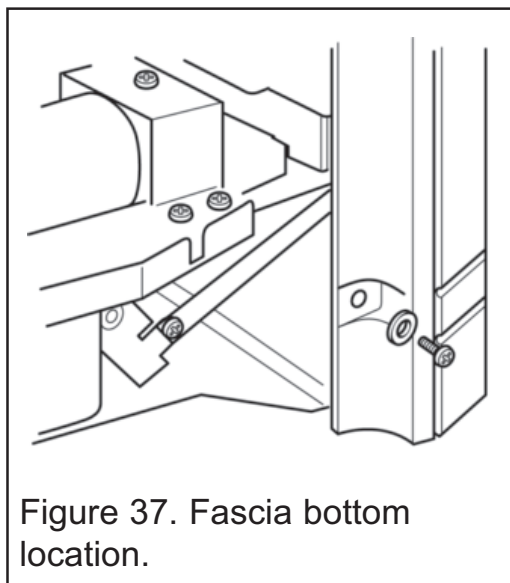

Figure 37. Fascia bottom location.
- ii) Remove the two screws (and washers where fitted) securing the bottom of the fascia to the sides of the convection box (See figure 37).